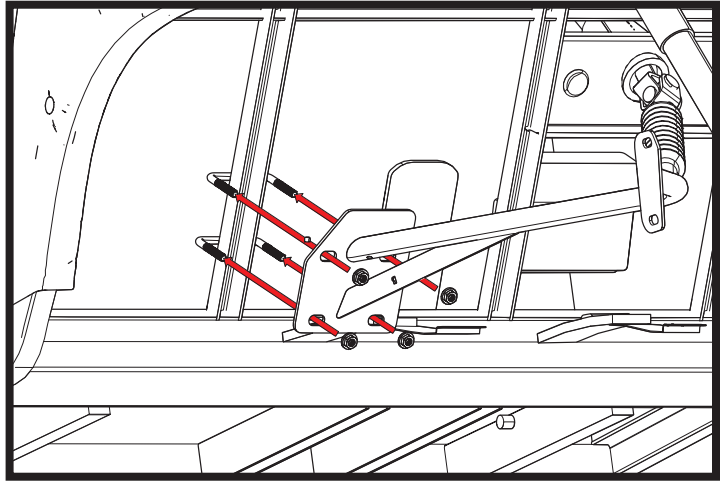

Fig. 7
Using two (2) square u-bolts and four (4) m10 flange nuts, install passenger side mounting arm (has a "P" cut into the bracket) oriented as shown to the frame member shown in Fig. 7. The u-bolts will slide between the frame member and the floor mat to go into place. Only finger tighten these bolts as the position of the mounting arm will need to be adjusted once the brushguard is fully assembled.